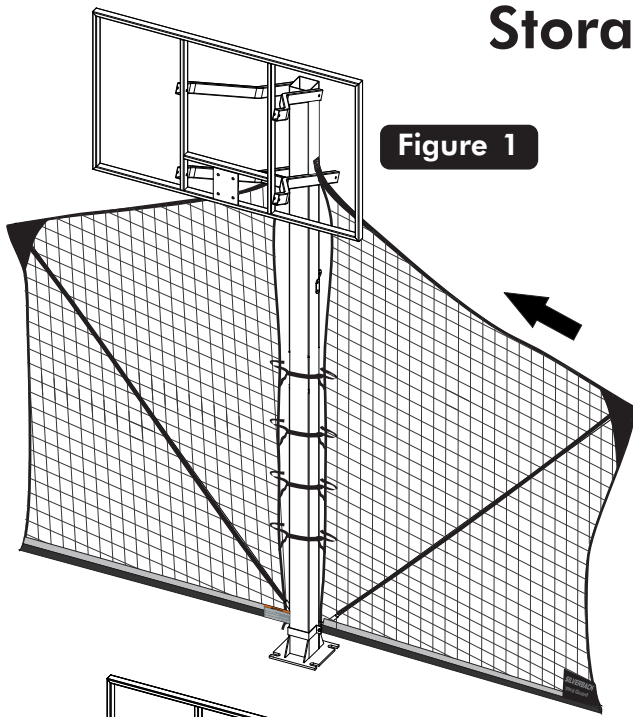

Figure 1
1. Slide Inner (#11) middle (#12) and outside (#13) poles together as shown in **Figure 1**.